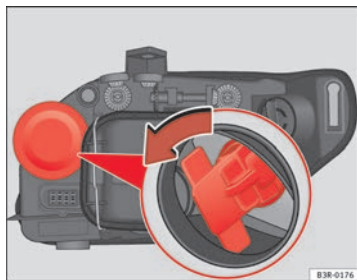

Fig. 221 Indicator bulb
- Remove the bulb holder by pulling on the grip and turning it anti-clockwise ⇒ fig. 221.